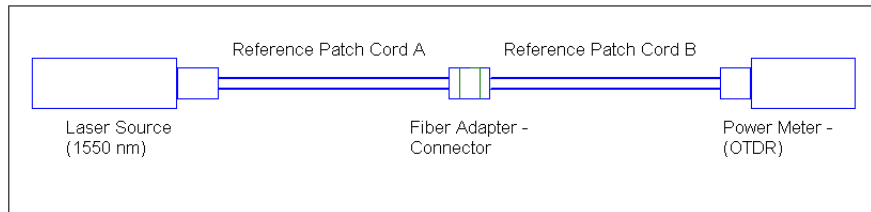

Figure 2.2: Two Patch Cords and Adapter
3. Connect the two patch cords together via the provided adapter and take the power output (P_{total}) reading of the system. (See Figure 2.2).